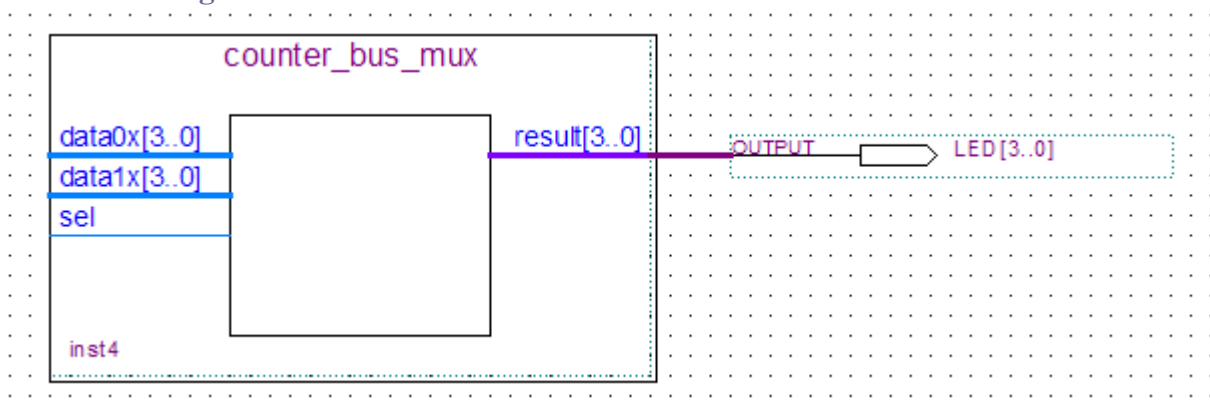

Figure 6-37 Renamed counter_bus_mux Bus Lines
- h. Click OK. **Figure 6-37** shows the renamed buses.